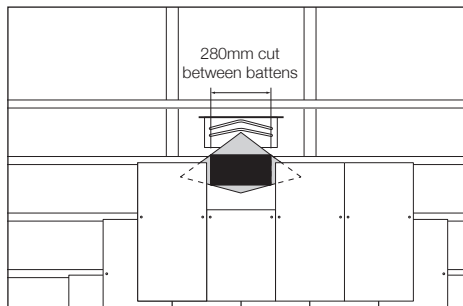

Fig. 1 – Determine position of ventilator
- 2 Determine the position of the ventilator, between rafters. Cut the slate directly below the ventilator so that it does not project past the slate batten to which it is secured. Ensure that the bottom edge of slate vent aligns with bottom edge of adjacent slates. Remove a 280mm section of batten to accommodate the unit. Form a 'V' cut in the underlay to accommodate the rectangular spigot (Fig. 1).